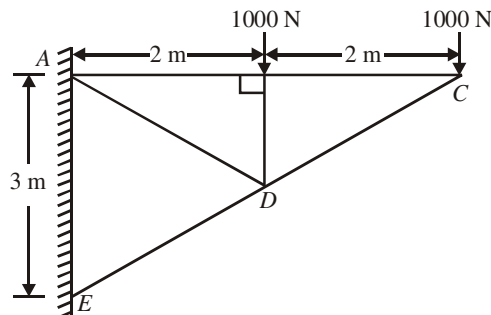

Fig 13.67
Q. 23: Determine the forces in the members BC and BD of a cantilever truss shown in the figure 13.67. (May-04(C.O.))